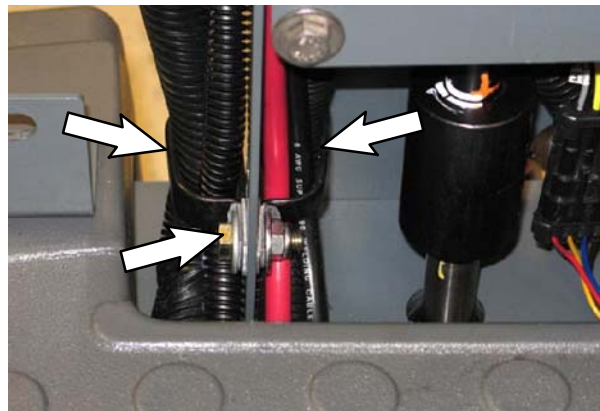

FIG. 13
13. Remove the hardware from the two lower cable clamp on the steering channel. Leave cable clamps loose on wire harness. (Fig. 13)
NOTE: If necessary, remove upper cable clamp located above clamp in Fig. 13 to loosen main wire harness from steering channel.